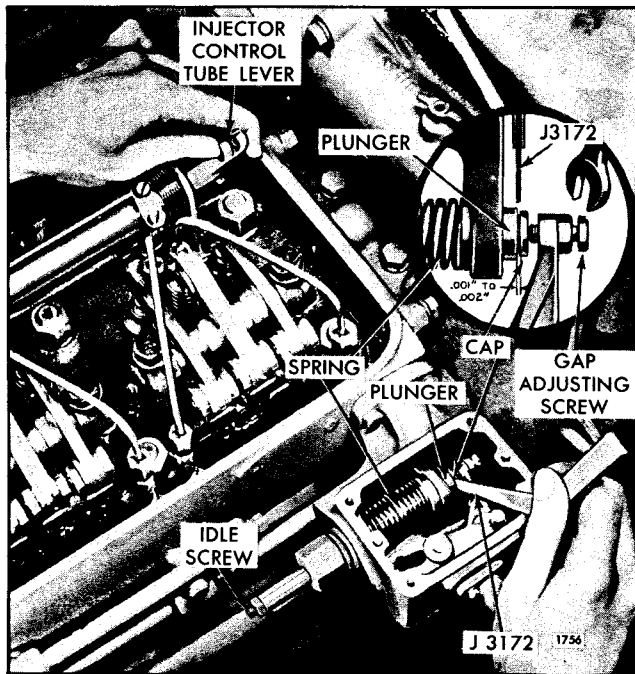

Fig. 2 - Adjusting Gap (Double-Weight Governor)
3. Start the engine and loosen the idle speed adjusting screw lock nut and adjust the idle screw to obtain the desired engine idle speed (Fig. 2). Hold the screw and tighten the lock nut to hold the adjustment.
7. Check the gap between the low-speed spring cap and the high-speed spring plunger with a feeler gage as shown in Fig. 2. The gap should be .002"-.004". If the gap setting is incorrect, reset the gap adjusting screw. If the setting is correct, the .002"-.004" movement can be seen by placing a few drops of oil into the governor gap and pressing a screw driver against the gap adjusting screw. Movement of the cap toward the plunger will force the oil from the gap in the form of a small bead.